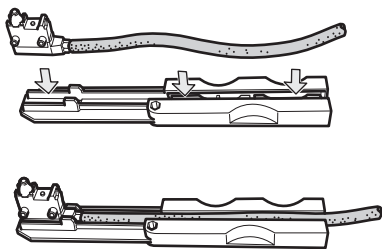

Fig. 6
- ▶ Place the transmitter with cable in the installation aid (Fig. 6).